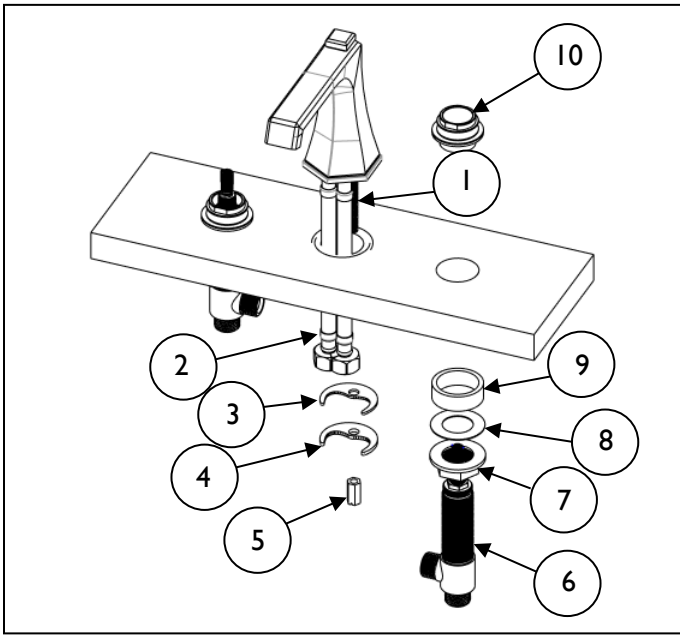

Figure 1
1. Place the spout's threaded ROD (1) and HOSES (2) through center hole of mounting surface. Secure spout into place with rubber GASKET (3), mounting CRESCENT (4) and NUT (5). **See Figure 1.**
2. Place plastic flange NUT (7), fiber WASHER (8), and SPACER (9) onto valve BODY (6). Insert valve BODY (6), (blue cold & red hot), through hole in the mounting surface. Thread the washer NUT (10) onto the upper position of the valve BODY (6) until it bottoms out. Valve BODY (6) should extend 1-3/4" above mounting surface. Secure into place by tightening plastic flange NUT (7) to 20 ft.-lbs. **See Figure 1.**